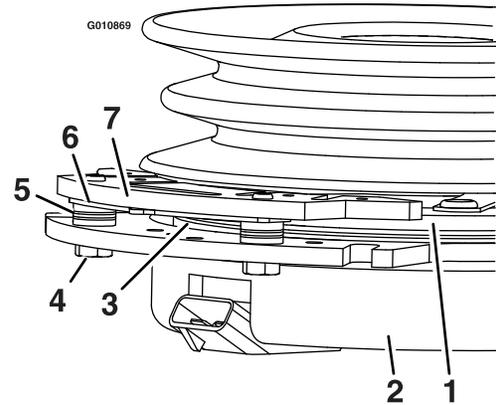

**Figure 69**
3. Remove the dust cap from caster and tighten the locknut (Figure 69).
4. Tighten the locknut until the spring washers are flat, and then back off a 1/4 turn to properly set the preload on the bearings (Figure 69).
**Important:** Make sure that the spring washers are installed correctly as shown in Figure 69.
5. Install the dust cap (Figure 69).